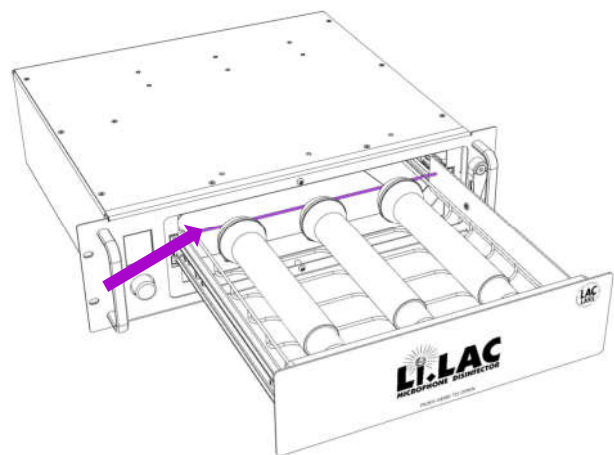

Fig. 3
3. Place microphones inside drawer with the head of the microphone facing the marking (Fig. 3).